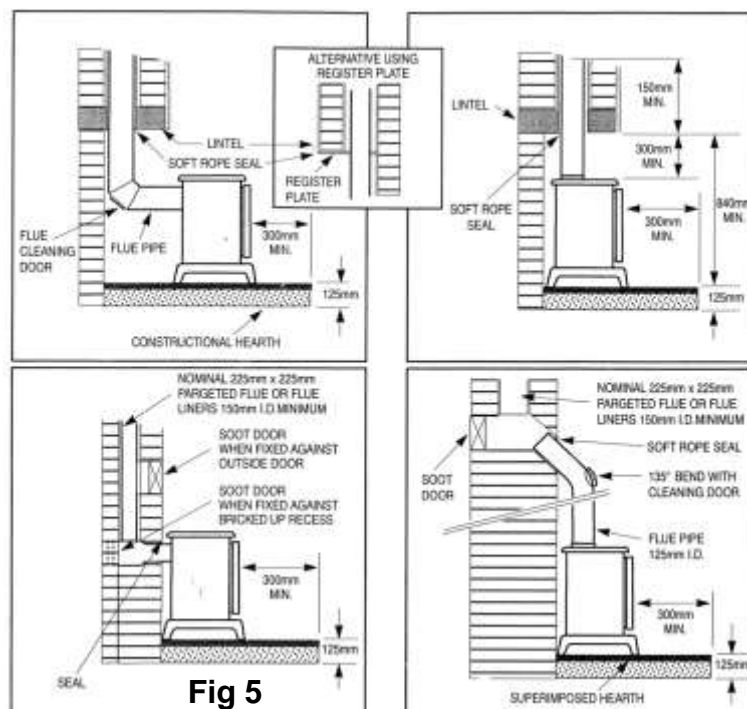

Fig 5
If the stove is connected via flue pipe to an existing brick chimney, square bends and horizontal runs must not be used. A cleaning door must be included at every bend. See **fig 5** below for details.
- Sweep the chimney thoroughly from an accessible position (see **fig 5, page 13**).